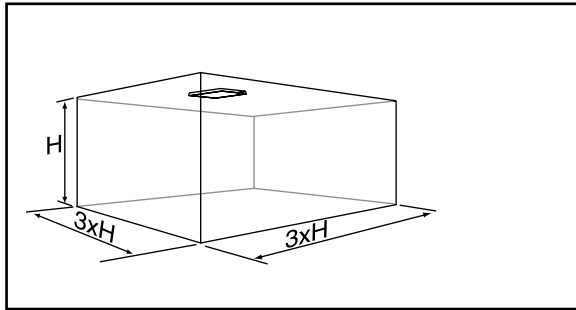

Figure 29: A small room ventilated by a single ceiling diffuser
If a single ceiling diffuser is intended to service an entire room, it should be positioned as close to the centre of the ceiling as possible, and the total surface should not exceed the dimensions indicated in Figure 29 below.
A large room has to be divided into several zones. The maximum dimension for each zone is $1.5 \times$ the room's length (A), as long as this does not exceed $3 \times H$ (see figure 29).